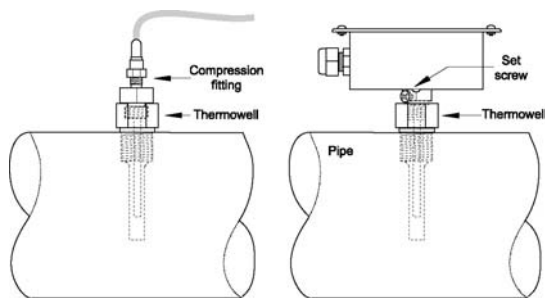

Figure 4. Installing the Immersion Sensor
- Loosen the compression fitting and remove the probe. See Figure 4.
- Loosen the set screw. See Figure 4.